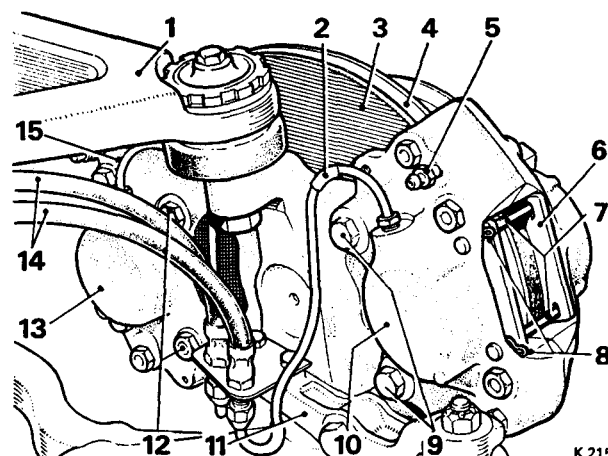
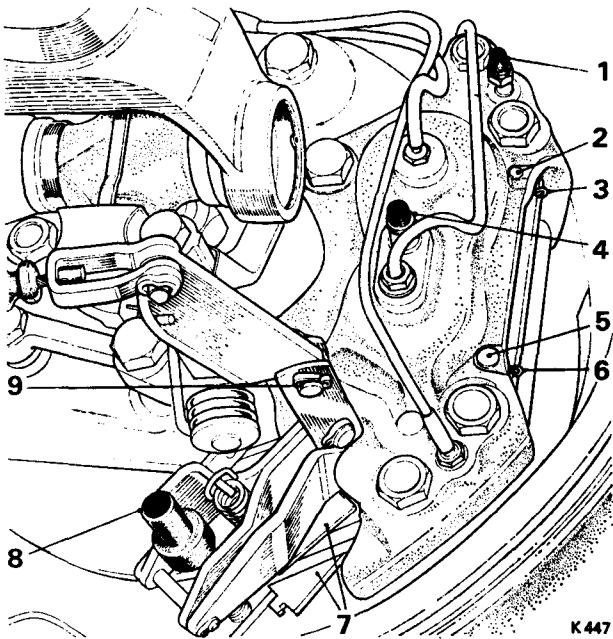
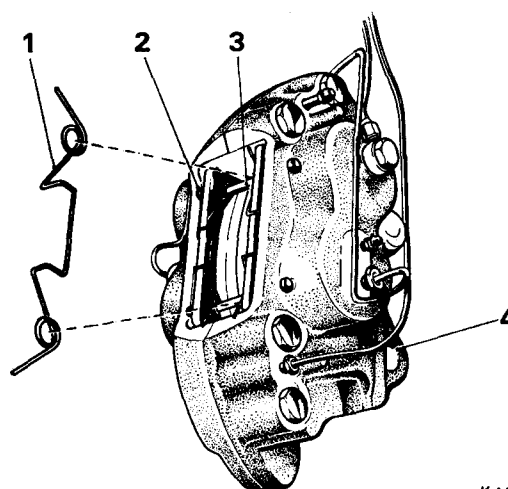

FIG. G43 FRONT BRAKE CALIPERS
FIG. G44 REAR BRAKE CALIPERS (EARLY CARS)
FIG. G47 REAR BRAKES ANTI-RATTLE SPRINGS IN POSITION
Disc brakes are fitted to all four wheels, each front wheel being fitted with two double cylinder calipers (see Fig. G43) and each rear wheel a large four cylinder caliper (see Fig. G44 or G45).
4. Remove the two spring clips from the brake pad retaining pins (see Fig. G43) then remove the two pins. Collect the anti-rattle spring from the rear brake (if fitted); refer to Figure G47.
When a bridge pipe (not colour coded) on the rear brakes is disturbed, great care must be taken when fitting it so that it does not get too close to the brake disc. A minimum clearance of $\frac{1}{8}$ in. (0,79 cm.) should be maintained at all times. Refer to Section G3—Hydraulic Systems Pipework and coloured illustrations, as well as *Figures G44 and G45* of this Section, in order to determine the pipe connections of the power and master cylinder circuits to the rear brakes.